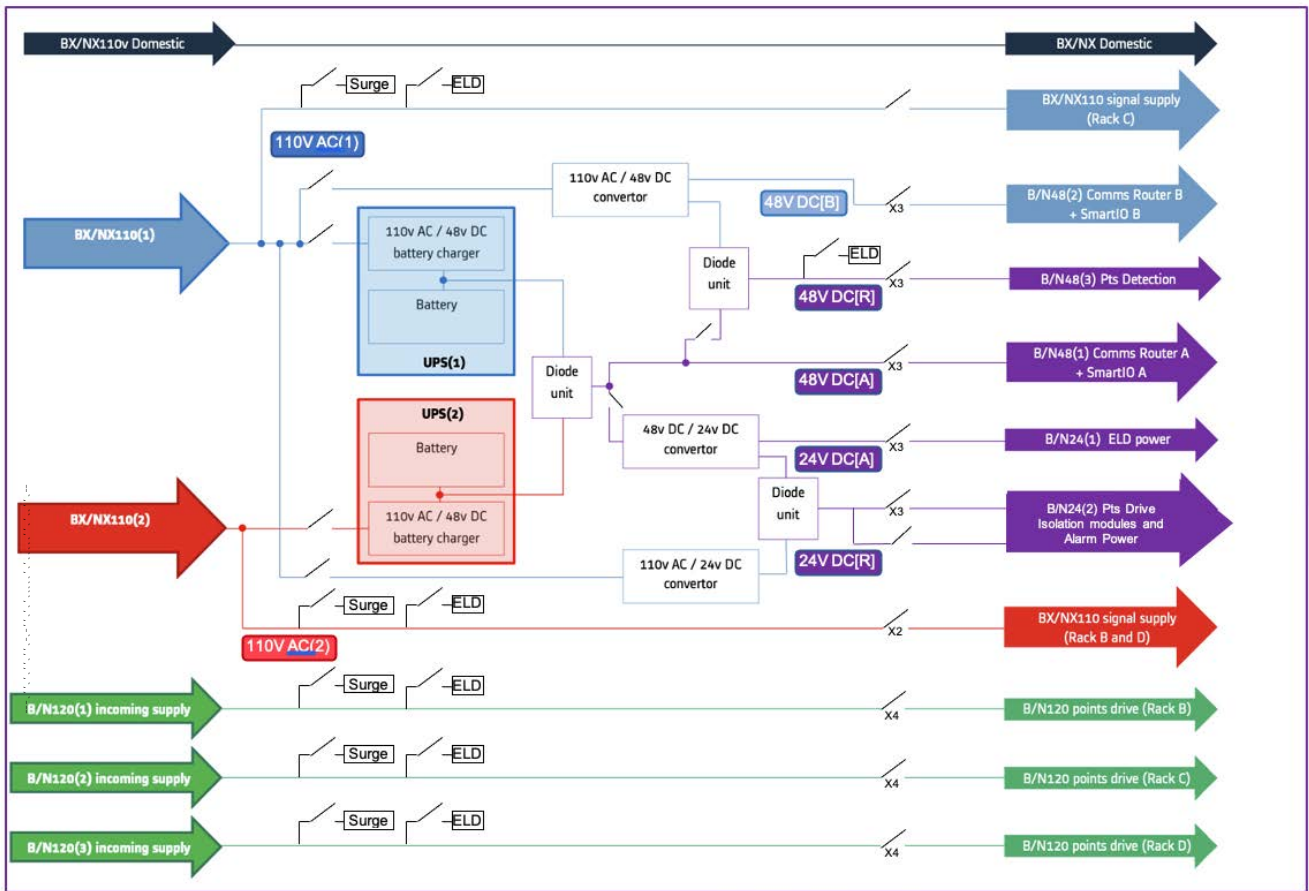

Figure 1 - SmartIO Power Rack block diagram
- 2.1 Double pole MCBs in the locations shown in Figure 1 are used to isolate supply devices before replacement and are test points for voltage measurements to confirm the correct operation of the power sub-system devices.